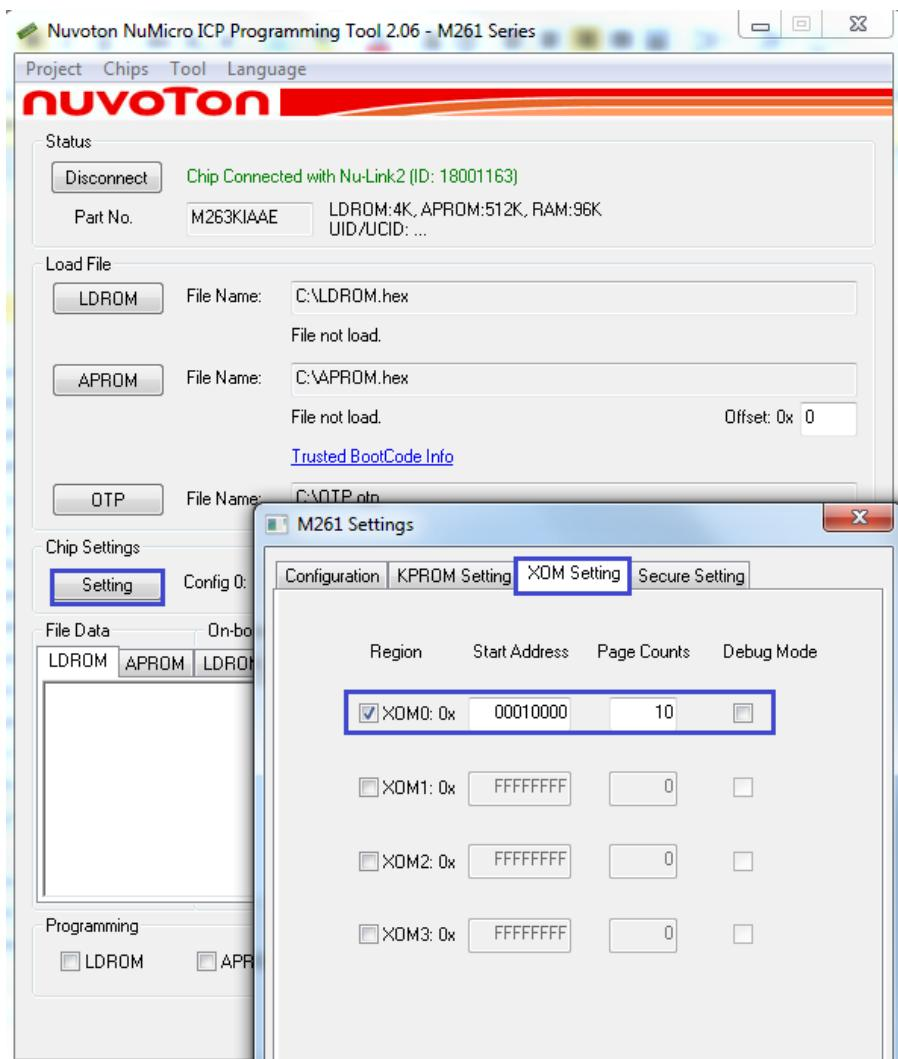

Figure 4-6 Open M261 Settings and XOM Setting
2. Click “Setting” button to open the “M261 Settings” page, as shown in Figure 4-6.